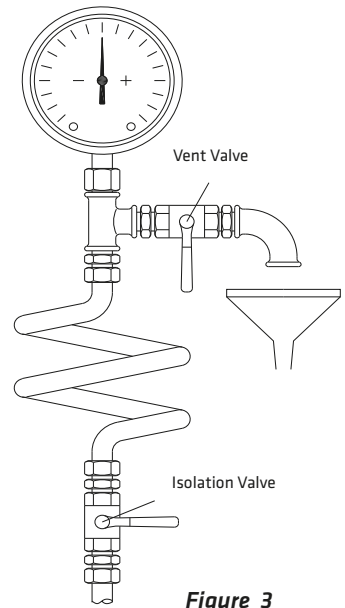

Figure 3
- Pressure and vacuum gauges must be properly anchored and connected at the measuring points located on the pump flanges by means of or on the pipes close to the flanges approximately 8 mm diameter tubing with pig tail configuration to lessen pressure fluctuation. For safety purposes isolating and vent valves should be fitted before the gauges (**Figure 3**).